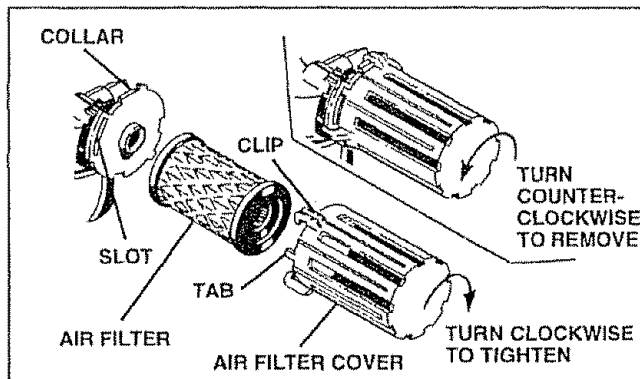

FIG. 14
**TO CHANGE AIR FILTER** (See Fig. 14)